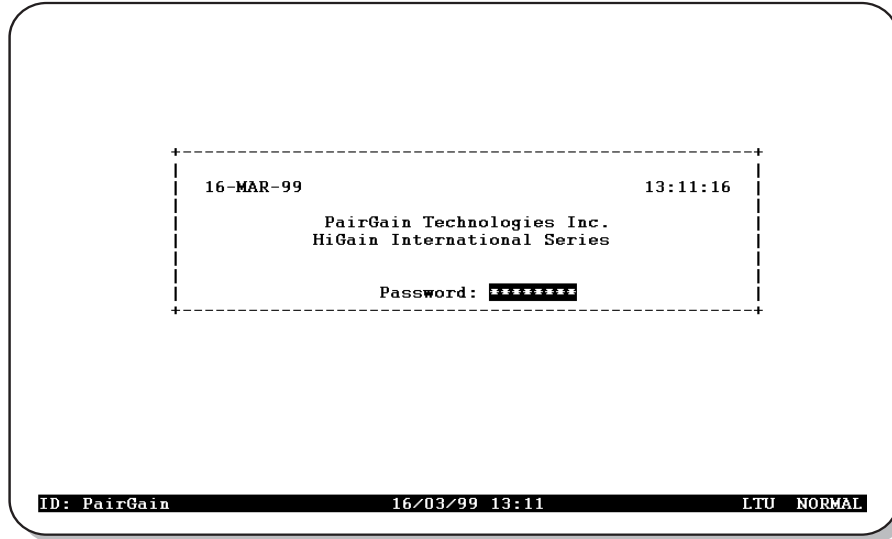

Figure 14. Logon Password Screen
- 1 Press the **SPACEBAR** several times to display the Logon Password screen (Figure 14).